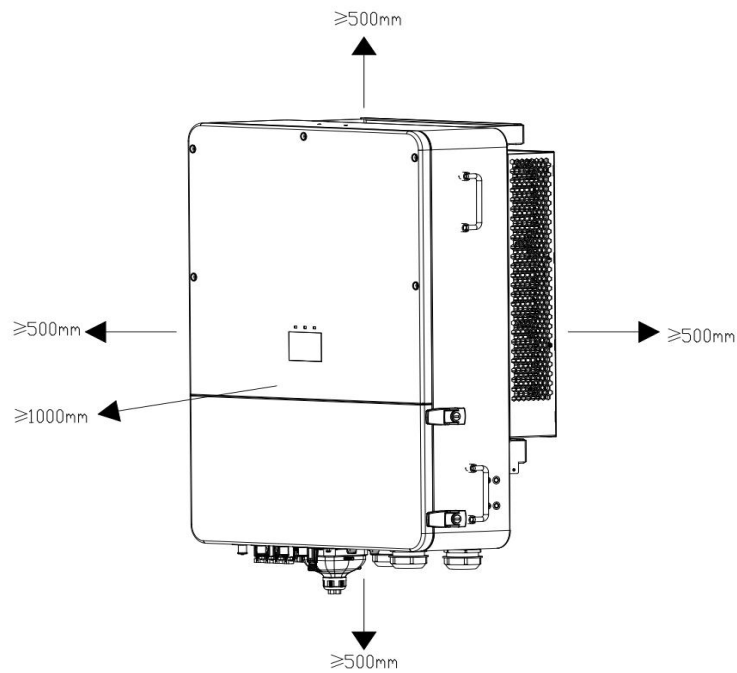

Figure 4.4 Installation spacing of inverter
(2) There should be enough space reserved around the installation position to facilitate the disassembly of the inverter and air convection, as shown in Figure 4.4.